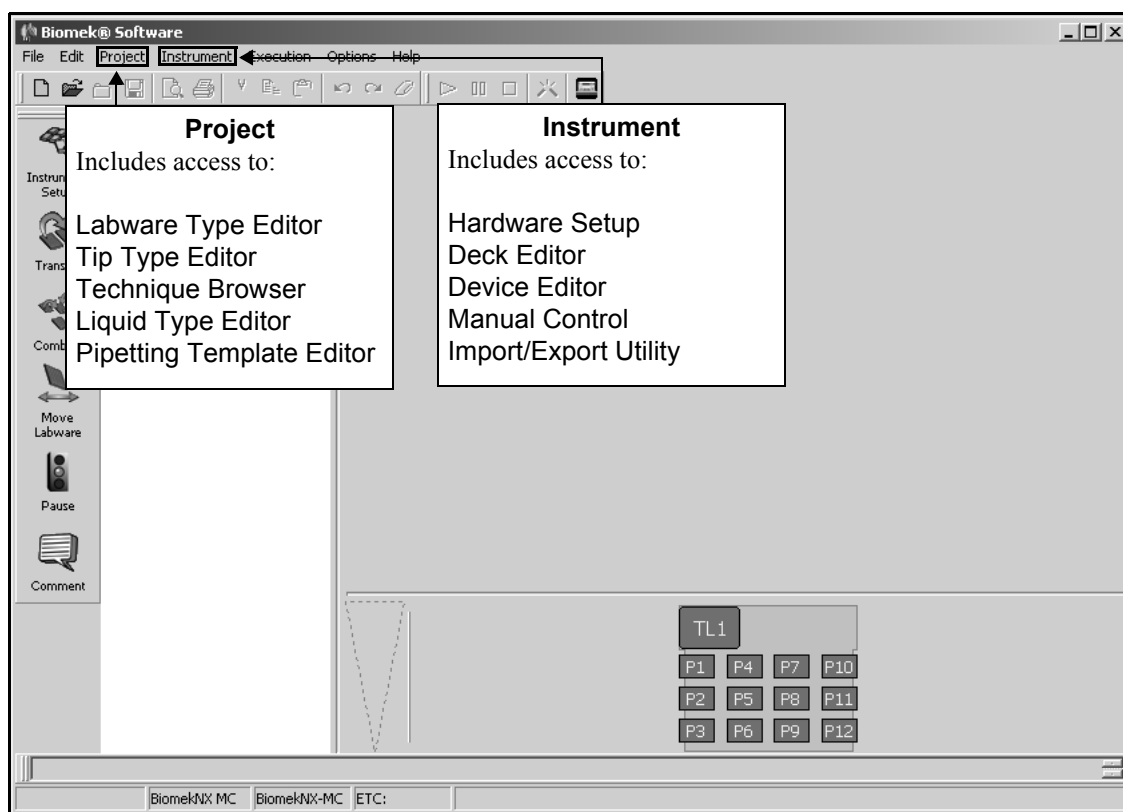

Figure 3-1. Biomek main editor
In this chapter you will be given information and instructions for using the editors in the Biomek Software. The editors allow you to customize a method to your special requirements. You can go beyond the predefined project items and instrument configurations; manually control the pod; restore instrument settings and project files; and configure external devices using specific editors. The editors are accessed from the **Project** or **Instrument** menus located on the toolbar of the Biomek main editor (Figure 3-1).
- Project menu (Figure 3-1)
- Instrument menu (Figure 3-1)
Following is a brief description of the editors available from the two menus displayed in Figure 3-1. If you would like to learn more about a specific editor, refer to the referenced chapter for more information.
The editors on the Project menu (Figure 3-1) allow project items to be created, copied, revised, and renamed. They include the following:
The editors on the Instrument menu (Figure 3-1) allow instrument configuration to be changed. They include the following: